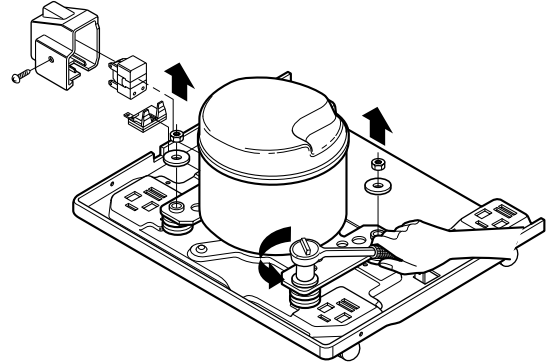

Figure 16
4. Remove the overload protector or P.T.C. assembly. (See Figure 16)
4. Remove the nuts and washers which fasten the compressor. (See Figure 16)
5. Remove the compressor. (See Figure 16)